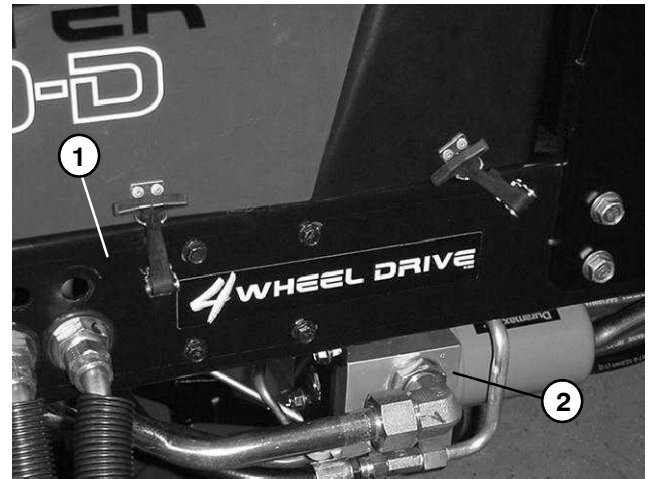

Figure 24
3. Connect a 1000 PSI gauge onto charge pressure test port located on rear of filter manifold under right hand frame rail (Fig. 24 and 25).